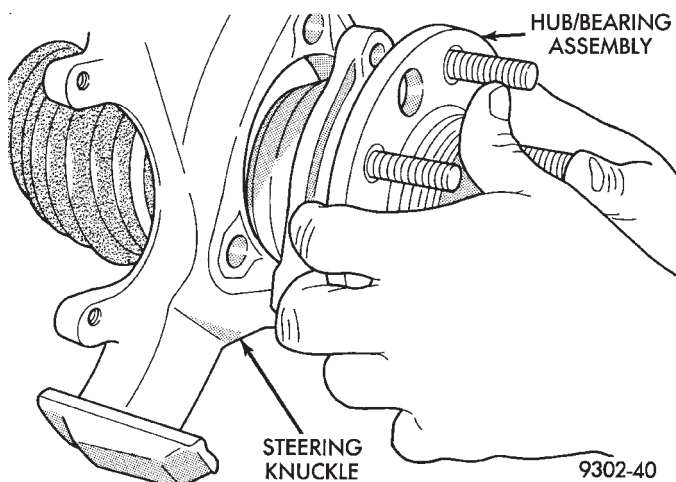
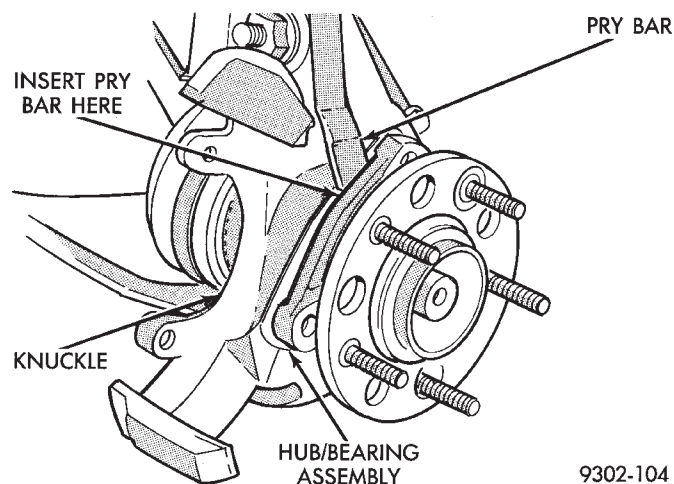

**Fig. 33 Hub And Bearing Removal And Installation**
**Fig. 34 Prying Hub And Bearing Assembly From Steering Knuckle**
(7) Remove hub and bearing assembly from steering knuckle, by sliding it straight out of steering knuckle and off end of stub axle (Fig. 33). If hub and bearing assembly will not slide out of knuckle. Insert a pry bar between hub and bearing assembly and steering knuckle (Fig. 34) and gently pry hub and bearing from knuckle. If stub shaft is frozen to hub and bearing assembly tap end of stub shaft with soft face hammer to free it from hub and bearing spline.